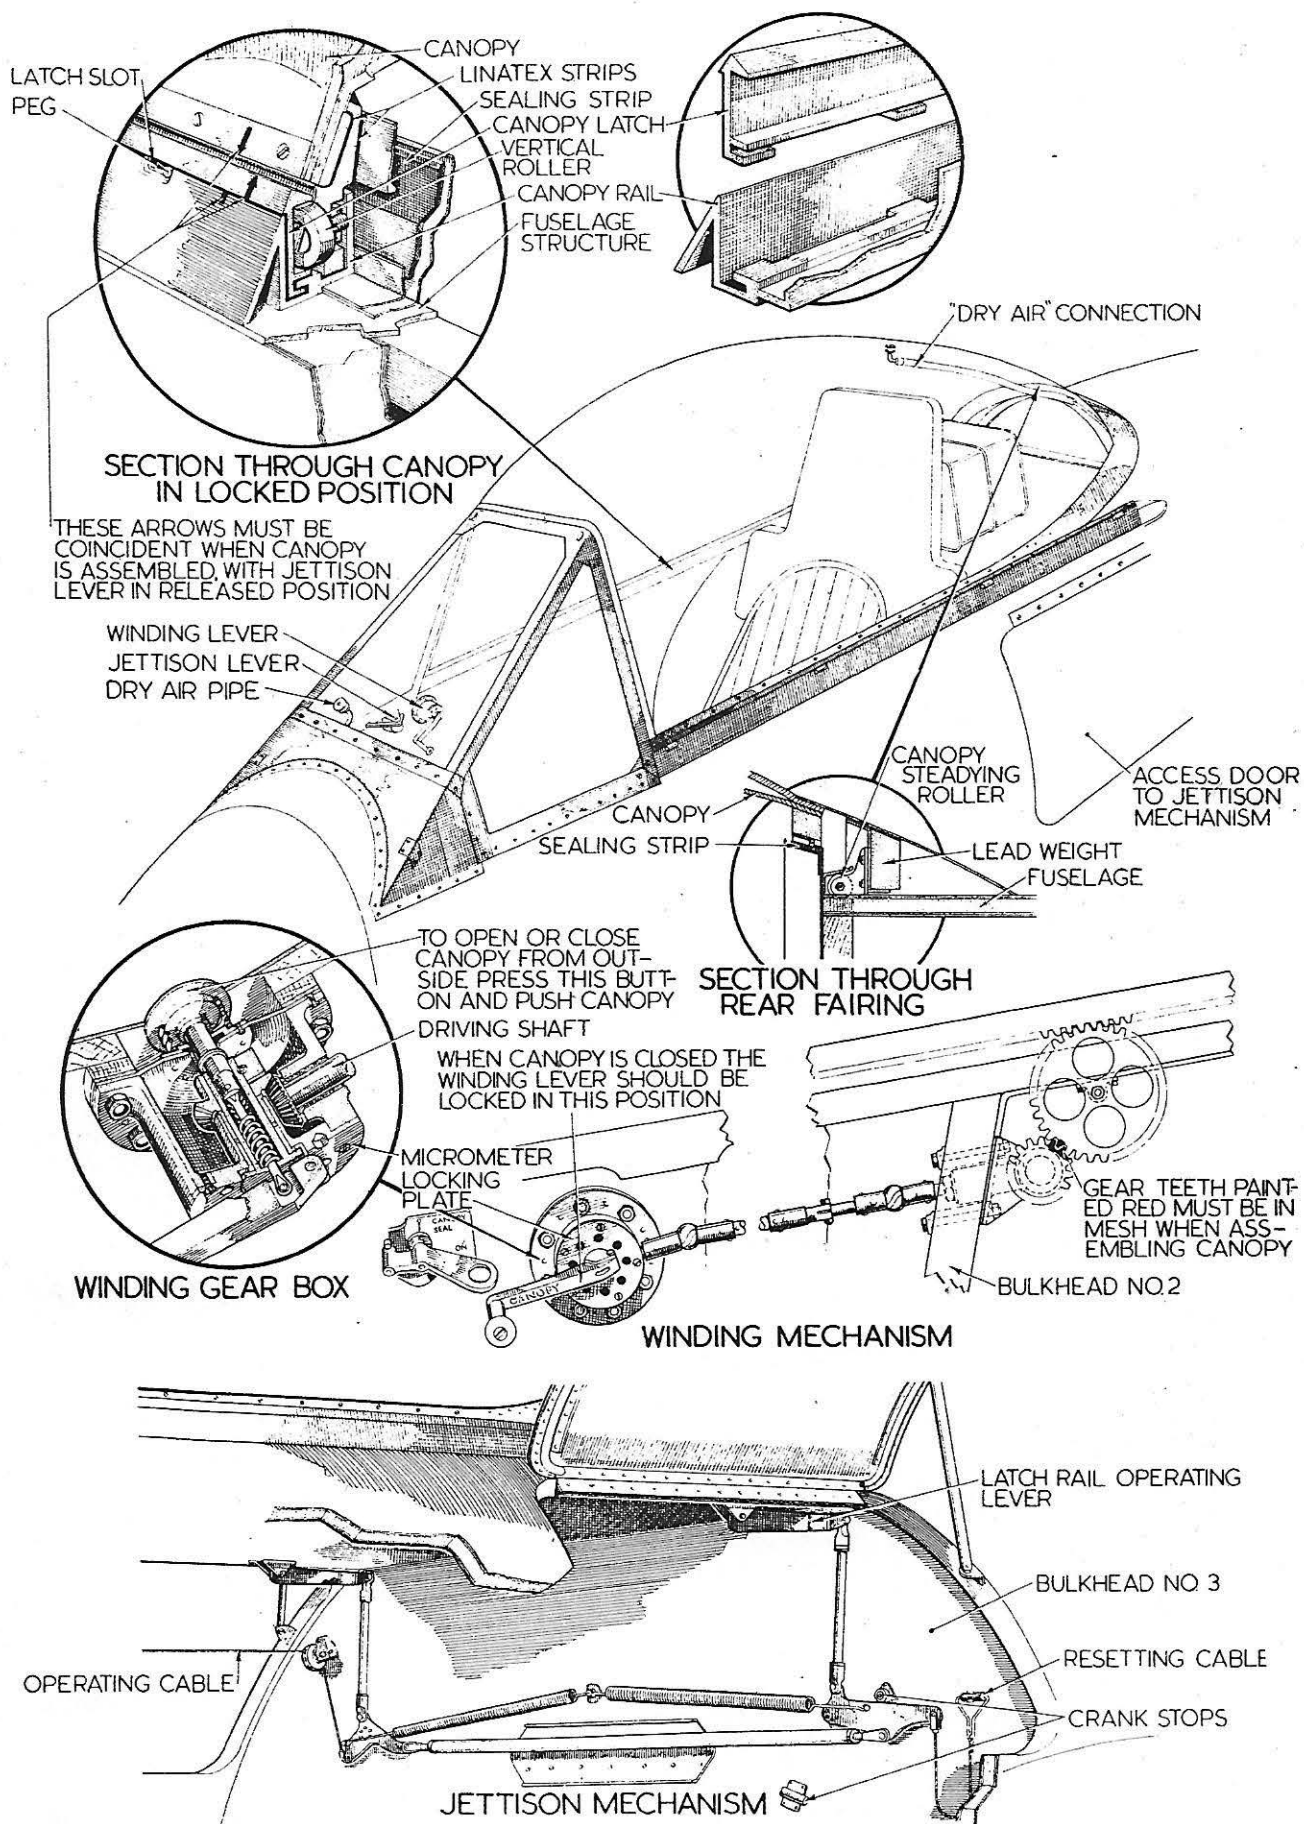

FIG. 7 CANOPY AND WINDSCREEN
5. Access for the removal of the reservoir is gained by jettisoning the canopy (fig. 7). The procedure for draining and subsequent removal of the reservoir is as follows:—
CANOPY REMOVAL AND ASSEMBLY (FIG. 7)
1. Slide the canopy on to the latch and line up the two red arrows on the starboard side as indicated in fig. 7.
5. Wind the canopy to the fully closed position and ensure that the winding handle is approximately in the position indicated in fig. 7, so that when opening the canopy from inside, the initial movement of the handle will partially turn OFF the canopy seal cock lever (Sect. 1).